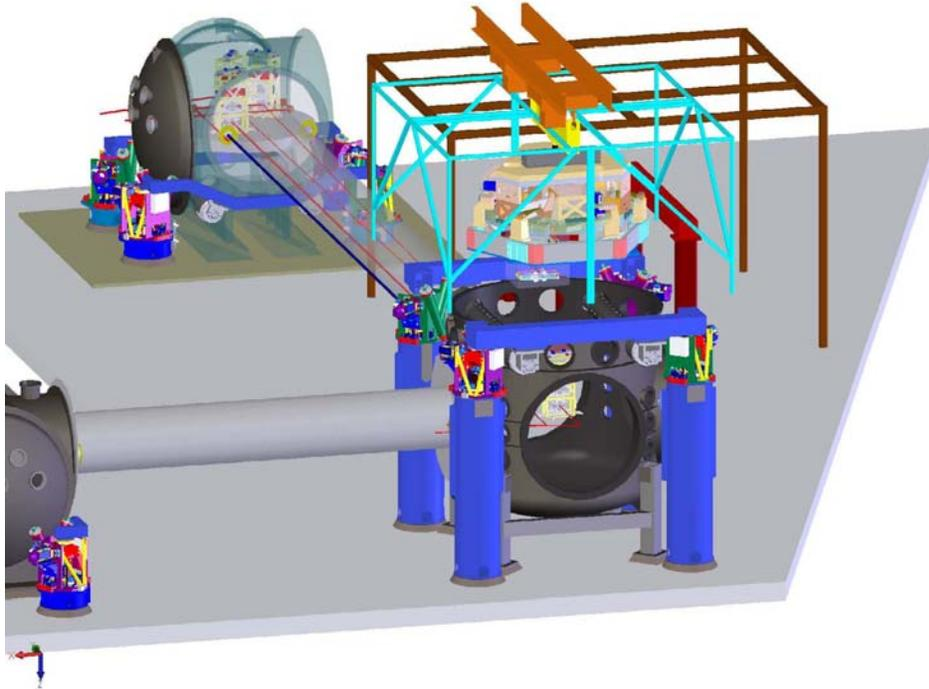

FIG. 6
5. Remove the (12) 3/8-24 bolts holding the stage 0 to the test stand.
7. Carefully lift the ISI/Quad assembly with C3 polyester cover up over the BSC chamber and down onto the support tubes (fig. 6).
9. Insert the (12) 3/8-24 bolts and tighten hand tight. Lower the ISI/Quad completely and remove the lift hook.